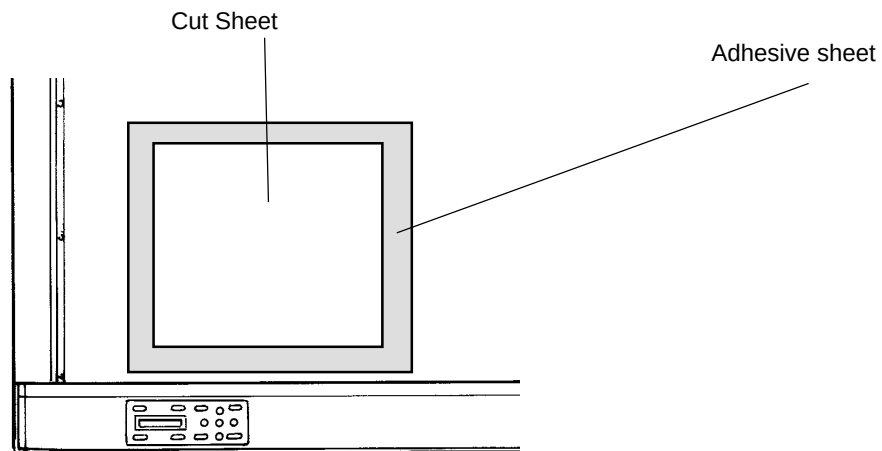

Figure 2-7
2. Peel off the backing paper on the exposed side of the adhesive sheet and place the cut sheet on top of this to secure in place. See figure 2-7 for placement of the adhesive sheet.